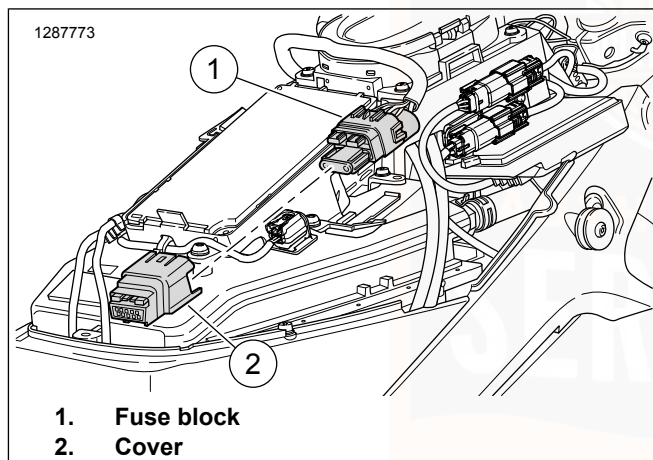

Figure 58. Fuse Block and Cover
3. See Figure 58. Remove fuse block from caddy on motorcycle.